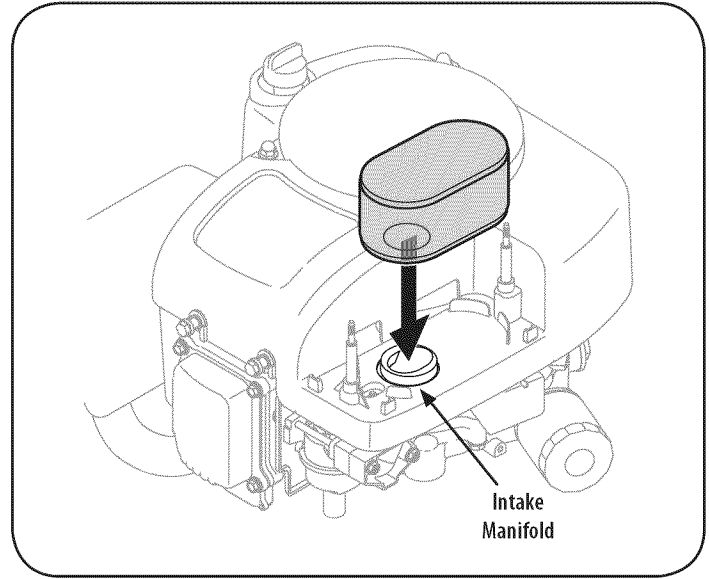

Figure 19
5. Attach the new air filter with foam element, aligning the hole in the air filter with the intake manifold. See Figure 19.